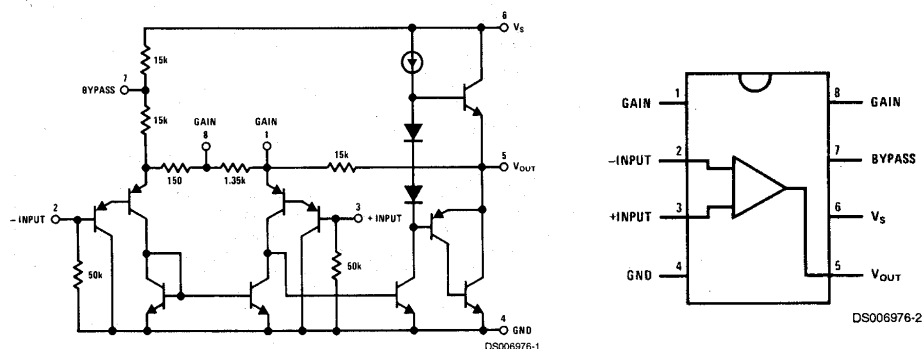
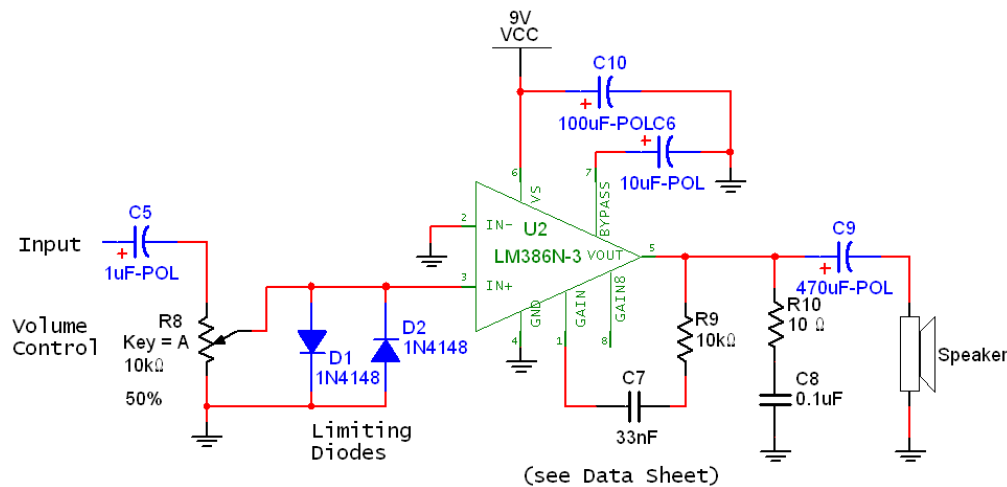

Figure 1-5 – LM386 internal circuit and 8-pin DIP pin assignments.
Figure 1-7 – Schematic of LM386 Amplifier.
At first glance this project looks simple; all we need is an amplifier to drive an audio speaker, right? Why not just use a simple op-amp gain stage? Well, one immediate challenge is that speakers have a low impedance, typically 8-Ohm. Even for a low-power 0.5W audio amplifier, $P = I^2 R / 2$ requires that the amplifier must be able to source a peak AC current of around 350 mA with an 8-Ohm load. This is a lot more than a typical op-amp is designed to provide. For example, the LM358 and LF353 (two op-amps used in this lab) can source around 20-40mA at most. So we need a device that can handle higher currents. We also want a device that can be operated from a single supply voltage (a battery in this case). It is possible to make a suitable amplifier using an op-amp and a couple of external power transistors, but we went with a simpler solution, and chose a chip that was specifically designed as an audio driver, the LM386, shown in Figure 1-5.
The schematic for an LM386-based amplifier is shown in Figure 1-7. We will first construct this amplifier using your plastic solderless breadboard and bench power supply. Once you debug the circuit and demonstrate that it works properly, you will “hard-wire” it onto a vectorboard and power it from a 9V battery. The idea of breadboarding the circuit first is not to create more work! It is good practice in general, since it allows you to debug your design more easily, allows you to experiment with component values, and most importantly will help preserve your battery in the event of a wiring error! The battery is in fact one of the most expensive components in this lab.
- First study the schematic carefully, and locate all the necessary parts in your kit. Find the LM386 chip and compare it with Figure 1-5 and the schematic in Figure 1-7 to correlate pin numbers with the circuit connections.